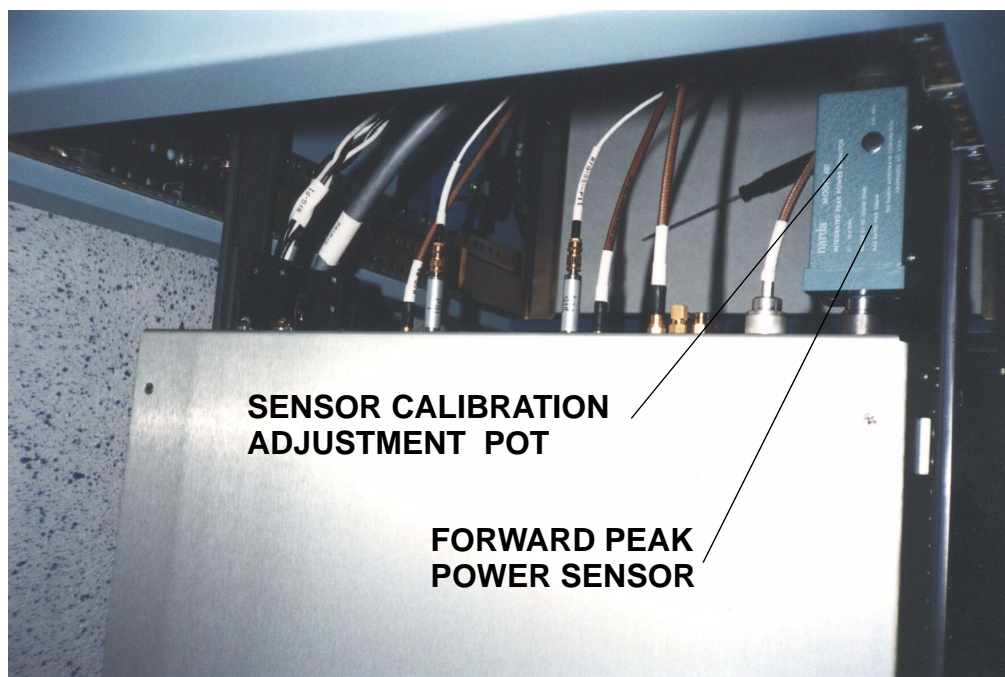

Figure 4-8 Forward Power Sensor Adjustment Potentiometer
4. The Forward Power Sensor calibration potentiometer is exposed by removing the metallic plug from the side of the sensor housing (see Figure 4-8). Use a small flat-blade screwdriver to make the adjustment and calibrate the sensor.